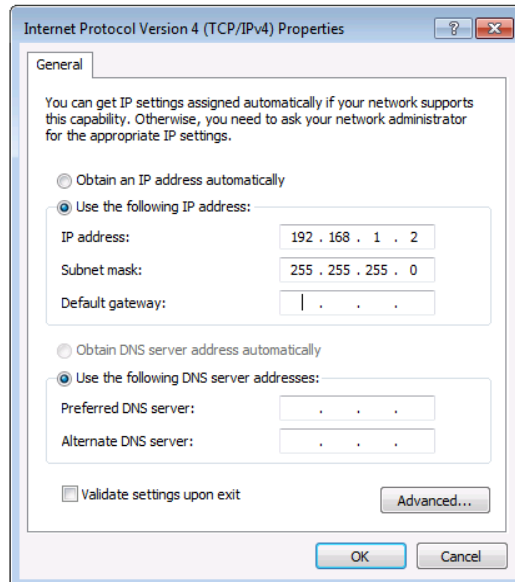

Figure 7: Internet Protocol Properties Window
- Select **Use the following IP Address** for static IP addressing and fill in the details as shown in Figure 7.